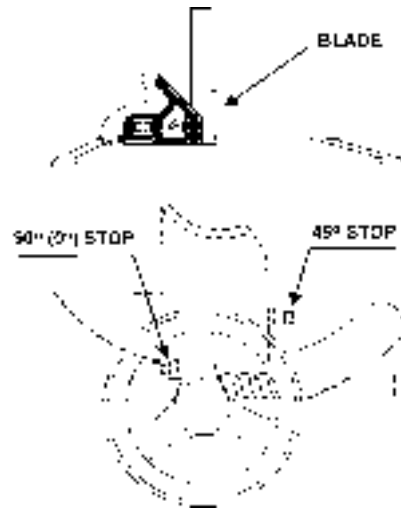

FIGURE 9
Using a combination square, check the 90 deg. (0) and 45 deg. stops as shown in Figure 9. Adjust stop positions if required, using the stop screws as shown. Check the pointer at 90 deg. (0) and readjust if required.